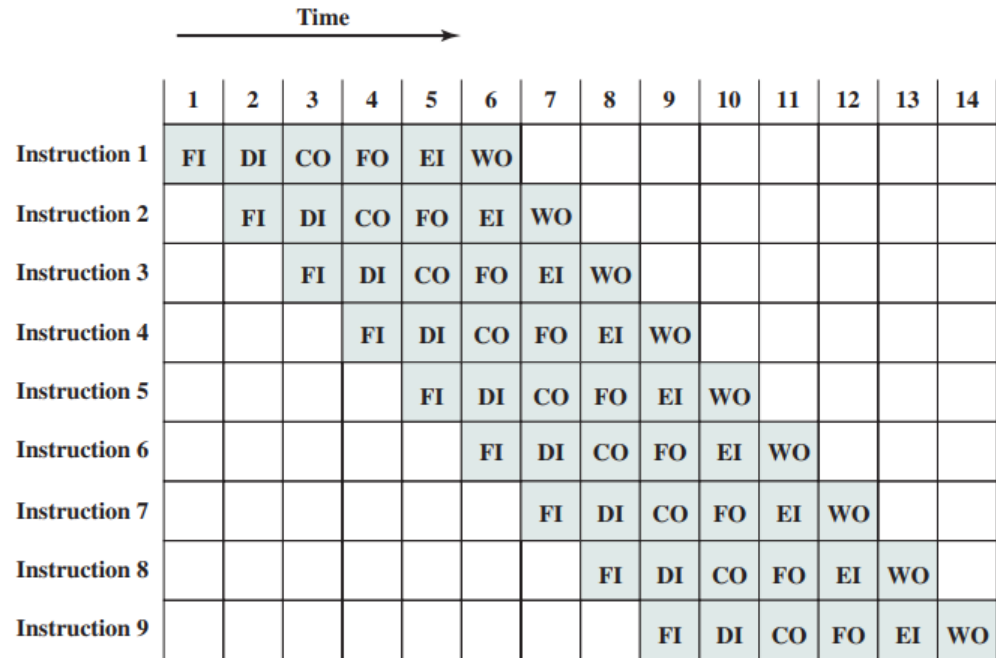

Figure 14.10 Timing Diagram for Instruction Pipeline Operation
- One cell in figure 14.10 is 1 clock cycle